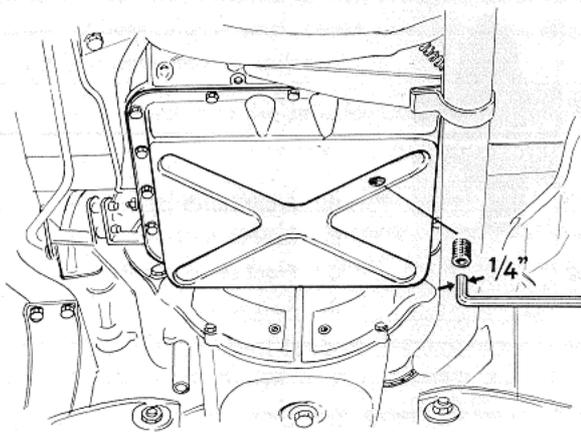

Fig. 35. Oil drain plug
2. Drain out the oil into a absolutely clean container, see Fig. 35. Caution. The fluid can be very hot, causing scalding if it comes into contact with the skin.
2. Drain the oil into a clean container, see Fig. 35.